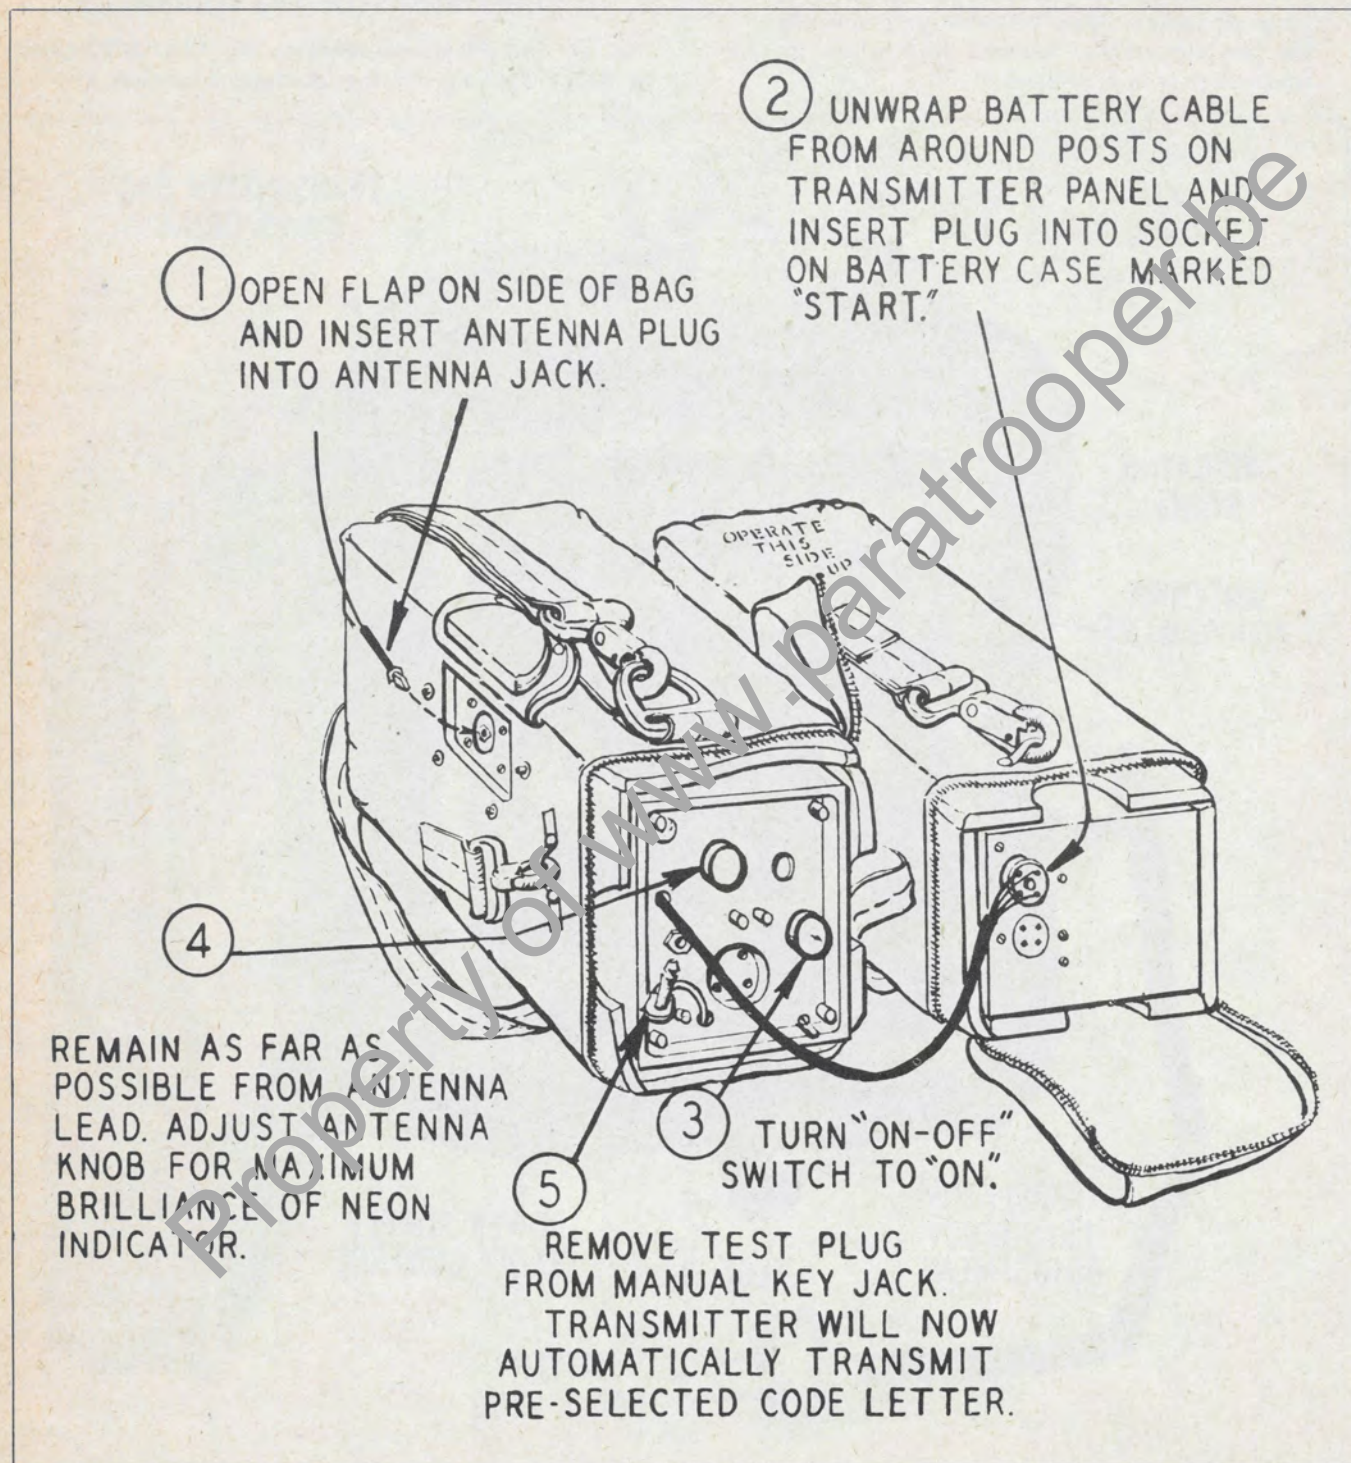

Figure 3-2. Operation of Equipment
a. AUTOMATIC OPERATION.—(See fig. 3-2.)